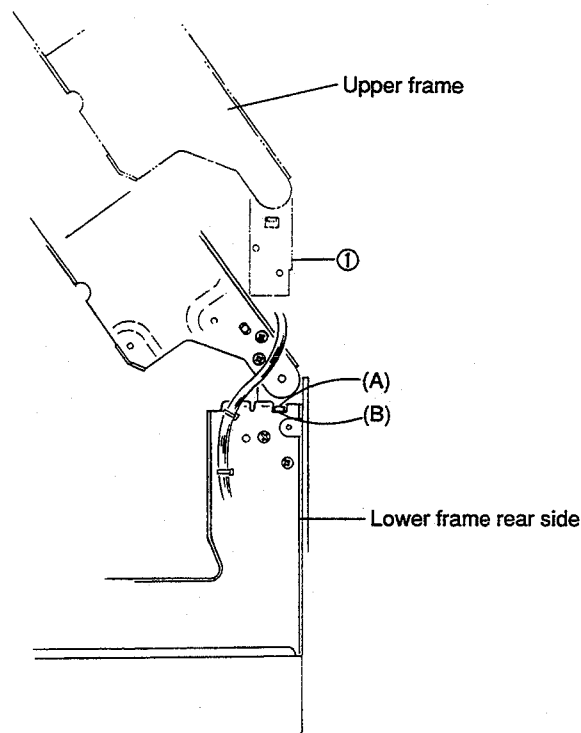

Fig. 8-6
- Insert the upper frame into the lower frame so that the upper frame angle and the lower frame rear side are in parallel as shown in Fig. 8-6.